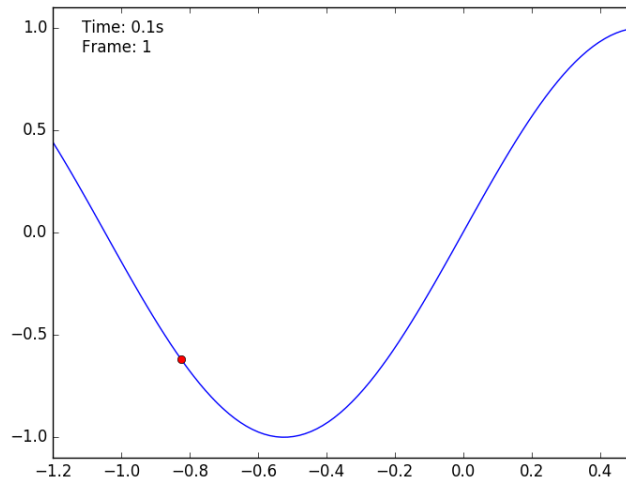

Figure 2: Our automobile (red dot) is stuck between two hills and needs to find a way to overcome the steep hill on the right despite its underpowered engine.
3. [25 pts] **Programming Assignment** In this problem, we will consider the hill automobile problem. Our automobile is stuck between two hills and its underpowered engine, even at full throttle, is unable to climb up the steep hill on the right (Fig. 2). Our task is to find a control policy that takes advantage of